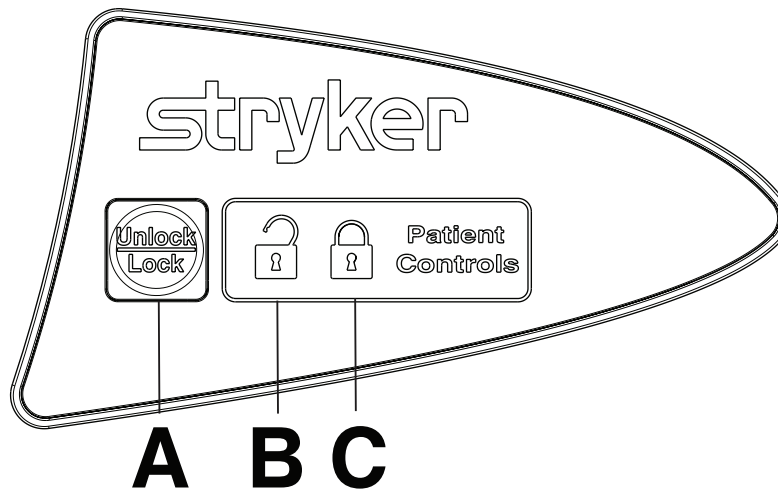

Figure 15 – Patient control panel lockout
To lock the siderail patient control panel, press **Unlock/Lock** (A) once (Figure 15).
**Note** - The lock icon (C) illuminates amber when the patient controls are locked.